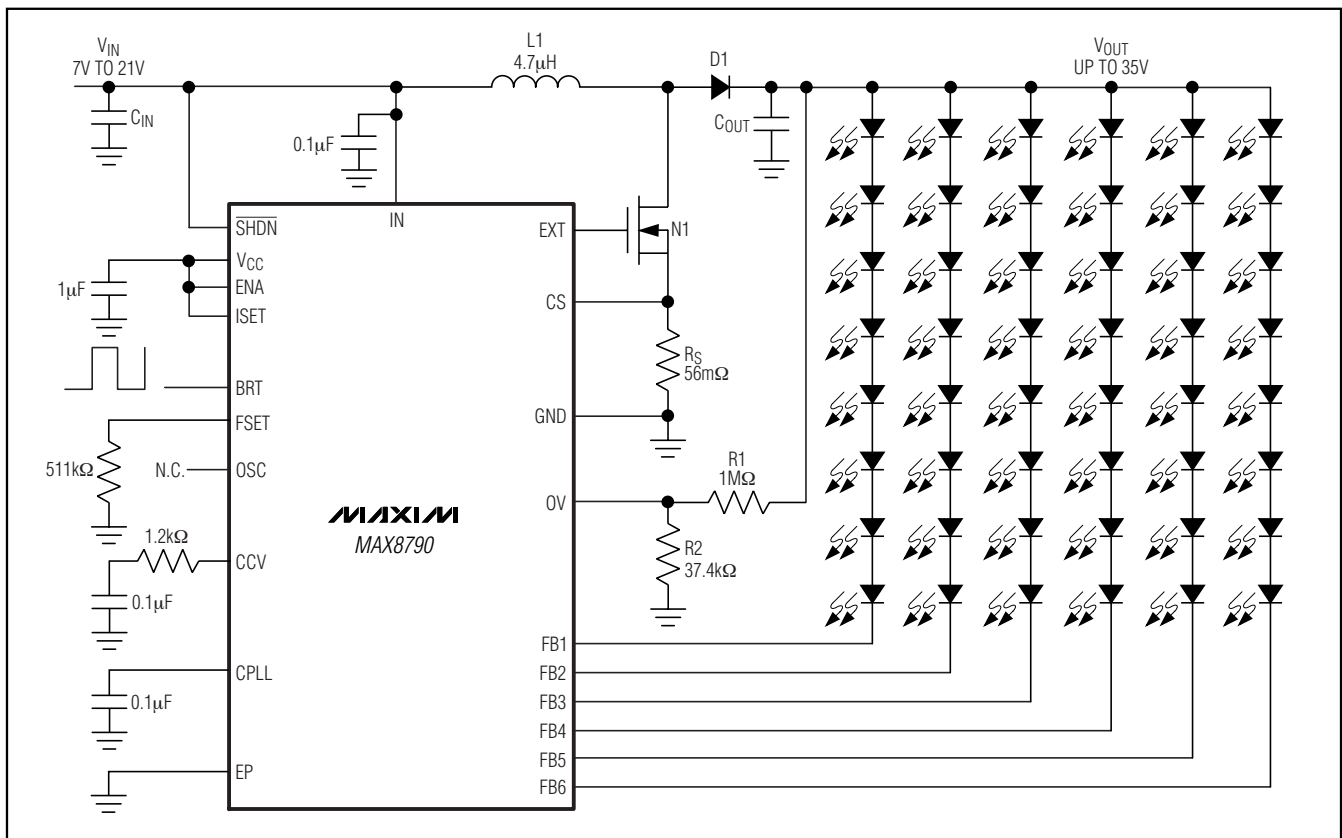

Figure 1. Typical Operating Circuit
To protect the step-up converter when the load is open, or the output voltage becomes excessive for any reason, the MAX8790 features a dedicated overvoltage feedback input (OV). The OV pin is connected to the center tap of a resistive voltage-divider from the high-voltage output (see Figure 1). When the MAX8790 is powered up, if none of the LED strings on FB1–FB6 are connected to the step-up converter output, the step-up converter regulates the output voltage to  $V_{\text{OUT}} = 1.23V(1 + R1 / R2)$ . When  $V_{\text{OV}}$  exceeds 1.23V, a comparator turns off N1. The step-up converter switch is reenabled after the output voltage drops below the protection threshold.